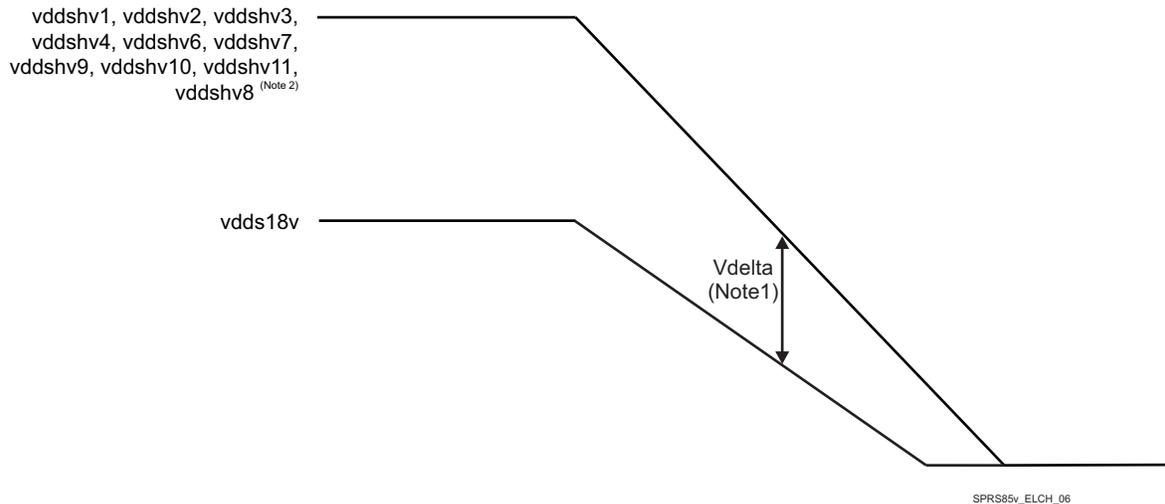
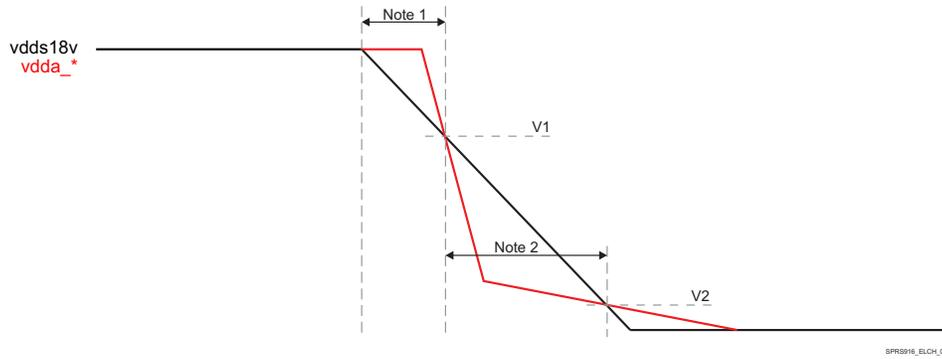
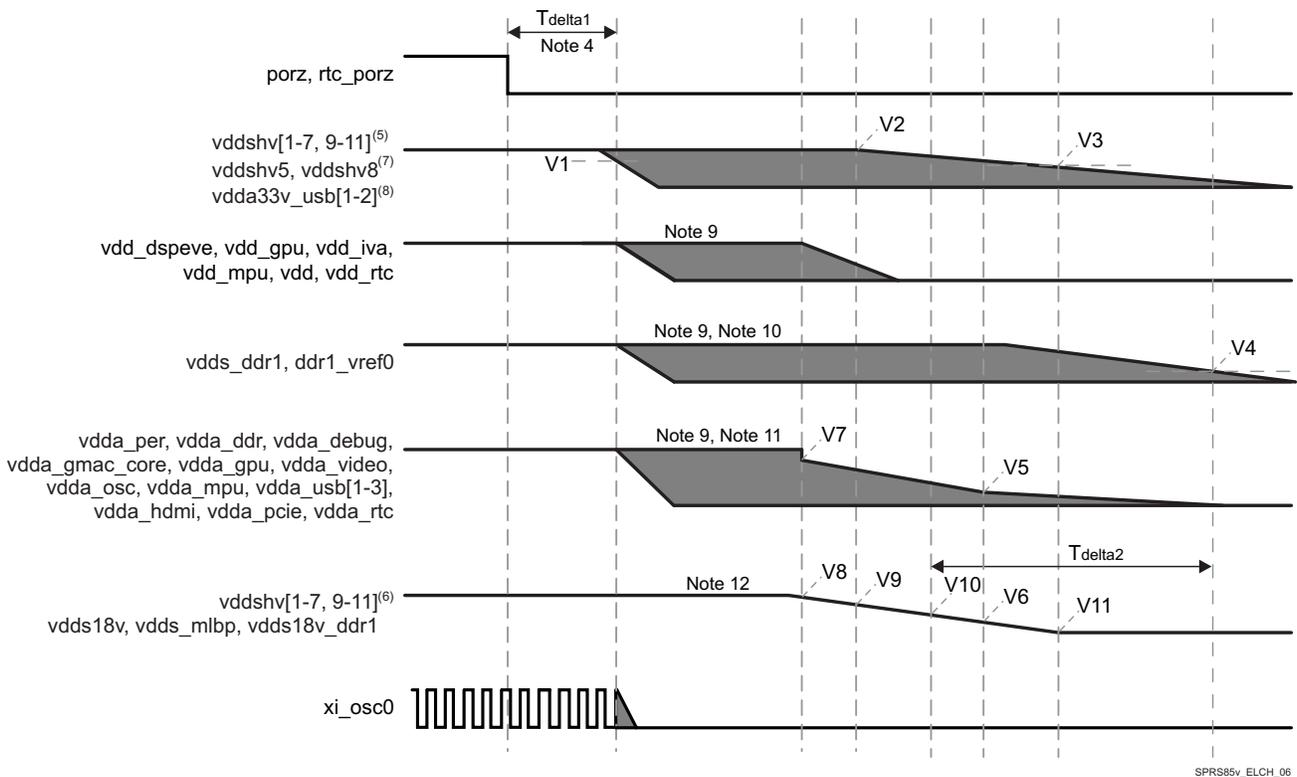

图 5-5. vdds18v versus vddshv[1-7, 9-11] Discharge Relationship
图 5-7. vdds18v and vdda_* Discharge Relationship⁽³⁾
图 5-8. Abrupt Power-Down Sequencing⁽¹⁾
- (3) General timing diagram items:
- (4) porz signals must be asserted low for 100 μ s min to ensure SoC is set to a safe functional state before any voltage begins to ramp down.
- (5) vddshv* domains supplied by 3.3 V:
- must not exceed vdds18v by more than 2 V during ramp down, see 图 5-7 “vdds18v and vdda_* Discharge Relationship”.
- (6) vddshv* domains supplied by 1.8 V:
- (7) vddshv8 domain:
- (8) RTC domains (vddshv5, vdd_rtc, and vdda_rtc):
- (9) vdda_* domains:
- must satisfy the vdds18v and vdda_* Discharge Relationship (see 图 5-7) if vdda_* disable point is later or discharge rate is slower than vdds18v.
- (10) vdda33v_usb* domains:
- (11) vdd_dspeve, vdd_gpu, vdd_iva, vdd_mpu domains can ramp down before or concurrently with vdd.
- (12) vdd can ramp down concurrently or after with vdd_dspeve, vdd_gpu, vdd_iva, vdd_mpu domains.
- (13) vdds_dds* domains:
- (14) vdds18v domain:
- must satisfy the vdds18v versus vddshv[1-7, 9-11] Discharge Relationship (see 图 5-5) if vddshv* is operating at 3.3 V
图 5-5 describes vddshv[1-7,9-11] Supplies Falling Before vdds18v Supplies Delta.
图 5-5 through 图 5-8 and associated notes described the device abrupt power down sequence.
A "loss of input power event" occurs when the system's input power is unexpectedly removed. Normally, the recommended power-down sequence should be followed and can be accomplished within 1.5-2 ms of elapsed time. This is the typical range of elapsed time available following a loss of power event, see 节 8.3.7 for design recommendations. If sufficient elapse time is not provided, then an "abrupt" power down sequence can be supported without impacting POH reliability if all of the following conditions are met (图 5-8).